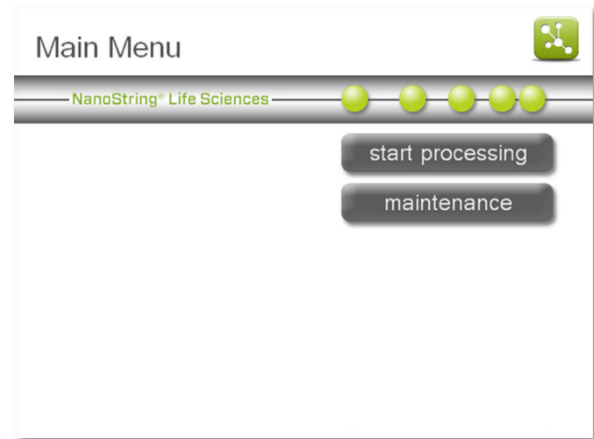

Figure 13: The Main Menu.
1. To set up a new run, press **start processing** from the Main Menu (Figure 13).